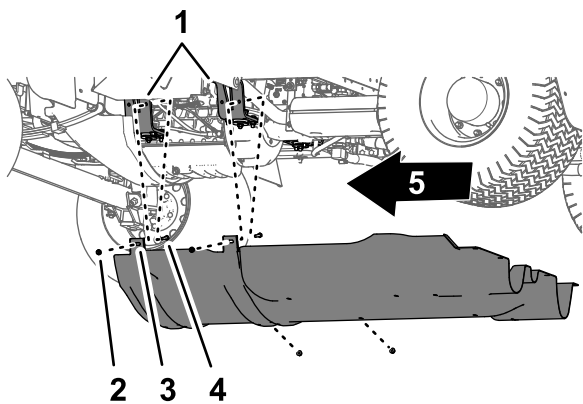

Figure 59
2. Remove the 4 flange locknuts (5/16 inch) from the bolts and carriage bolt that secure the mounting tabs of the undercarriage shroud to the engine-mount brackets of the machine (Figure 59).
4. Remove the undercarriage shroud from the machine (Figure 58 and Figure 59).
1. Align the undercarriage shroud to the bottom chassis of the machine; refer to Figure 59 in Removing the Undercarriage Shroud (page 49).
2. Move the mounting tabs of the undercarriage shroud over the bolts and carriage bolt at the engine-mount brackets of the machine; refer to Figure 59 in Removing the Undercarriage Shroud (page 49).
3. Assemble the undercarriage shroud to the engine-mount brackets and bolts (Figure 59) with the 4 flange locknuts (5/16 inch) that you removed in step 2 of Removing the Undercarriage Shroud (page 49).